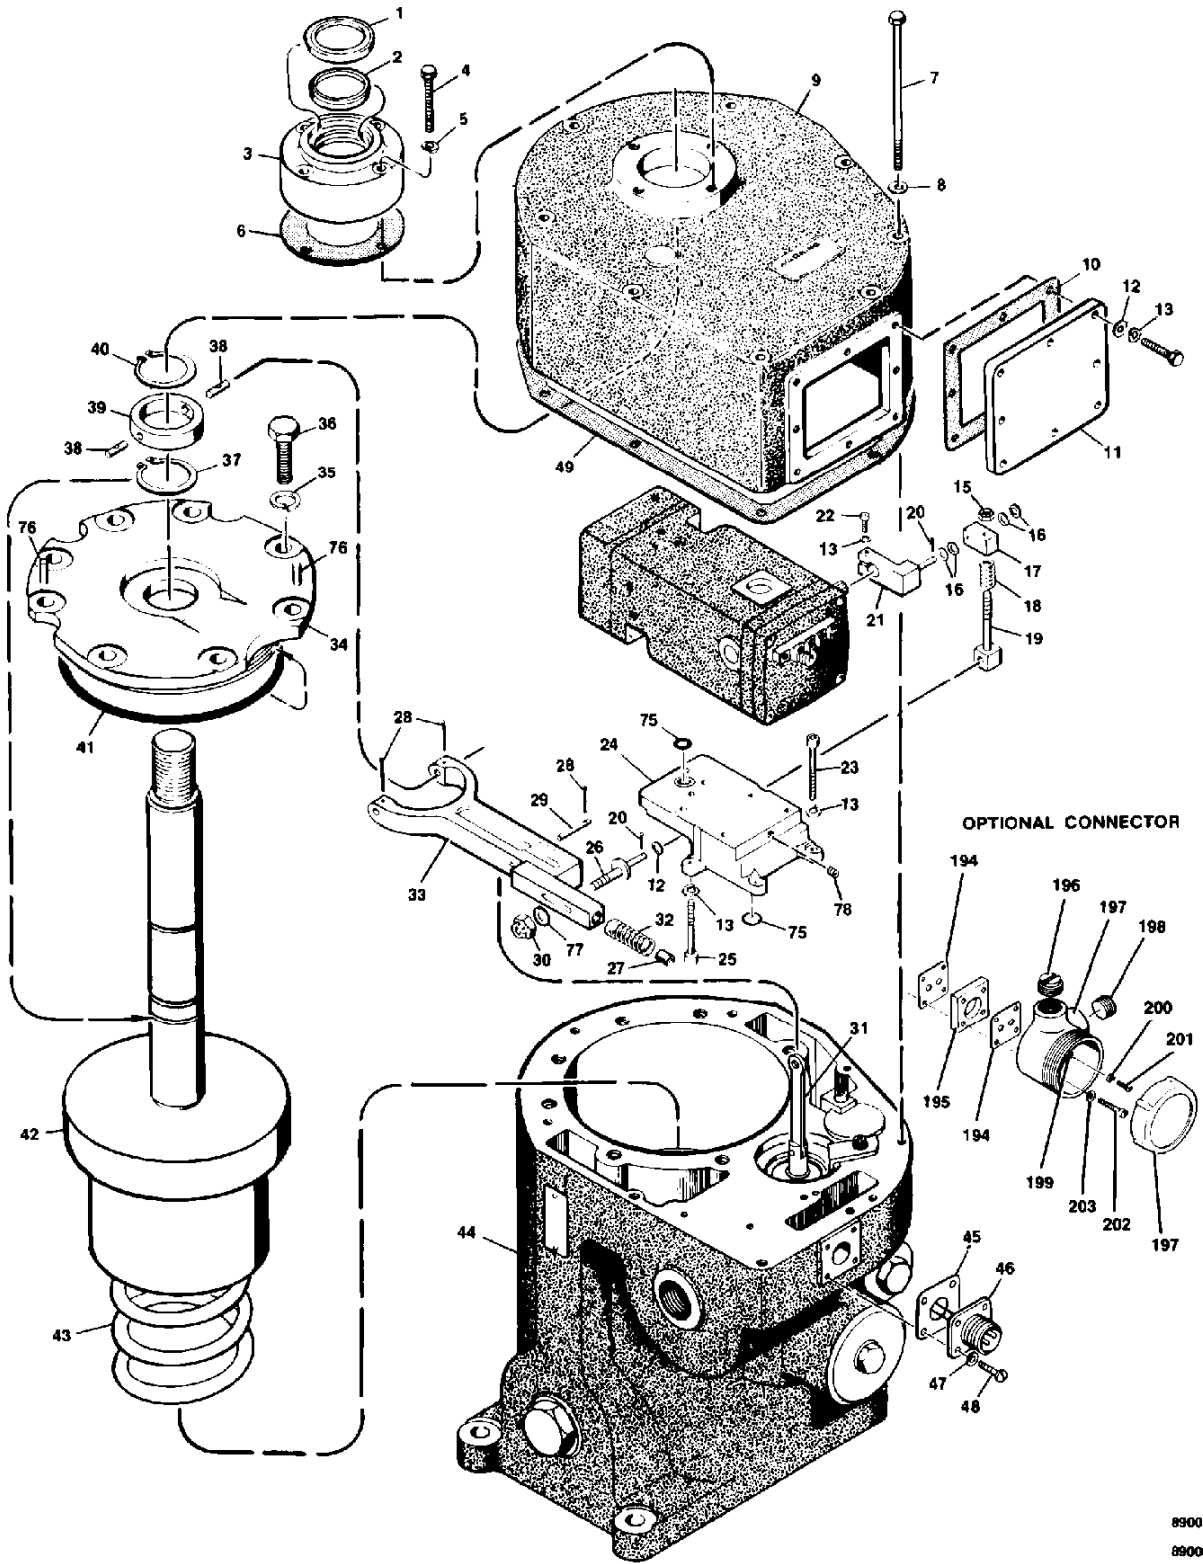

Figure 5-1a. Parts for Electrically Controlled Hydraulic Amplifier (sheet 1)
3. Disconnect the actuator output arm from the adjustable link. See Figure 5-1a.
### Parts List for Figure 5-1a